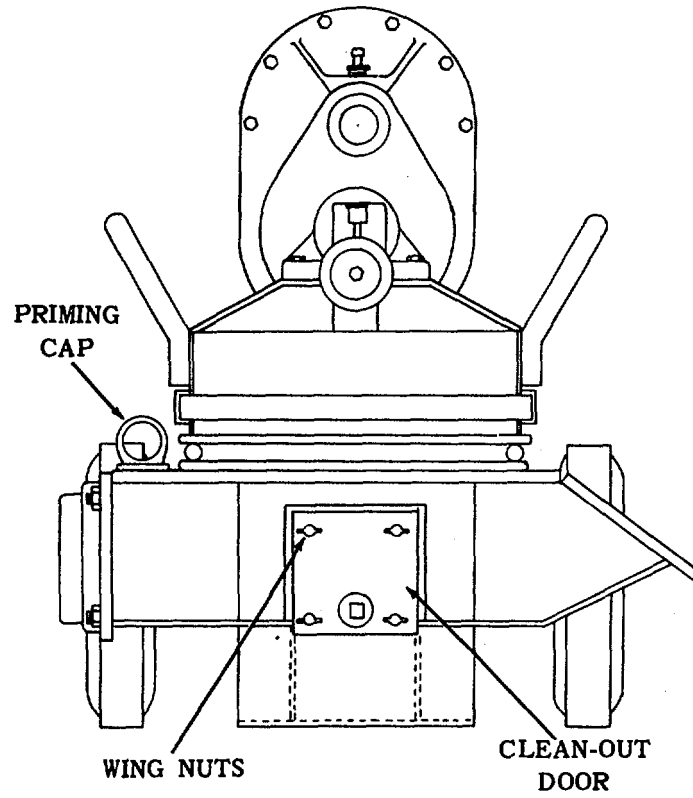

FIGURE 3
9. Movement to new worksite - Disconnect the suction and discharge hose from the pump. Drain pump body by removing the pump drain plug, reference, Fig. 7. If extremely hi-solid content water, mud or mucky water has been pumped, the pump body should be flushed out with clean water. The clean-out door may be removed for this purpose, reference, Fig. 3 and 7.
14. Pump body clean-out door - Fig. 3 - A clean-out door is provided for quick inspection and clean-out. After pumping off muddy, sludge water, or water containing chemical harmful to rubber, the pump body should be flushed out with clean water. Access to the inside of the pump body is made by removing four wing nuts holding clean-out door to pump body and remove door, replace door and rubber gasket. Turn wing nuts down tightly.